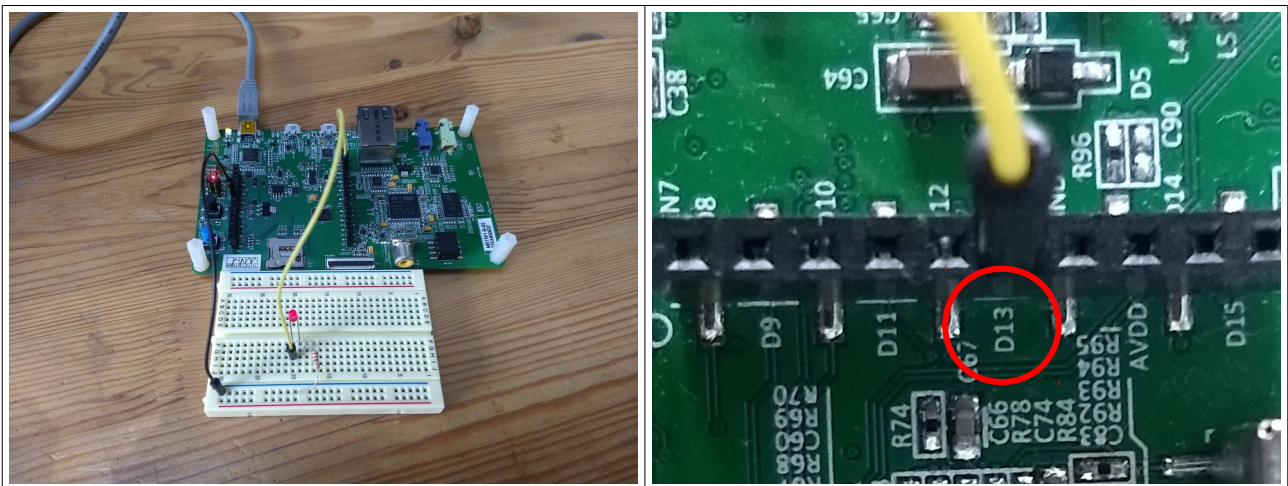

Figure 3 – The completed circuit
3. Once you have made a few 3 inch jumper wires it is time to wire up the breadboard. We will connect a 220 ohm resistor from the anode (long leg) of the LED to the positive supply rail on the breadboard, and connect the positive supply rail on the breadboard to PI\_1 on the STM32F7 discovery board (marked as D13 – see Appendix A for the STM32F7 discovery board pin outs). We will then wire up the cathode (short leg) on the LED to the negative supply rail on the breadboard and the negative supply on the breadboard to the ground pin on the STM32F7 discovery board. Figure 3 shows the completed and wired up circuit – if you have any questions about this circuit ask a member of staff.